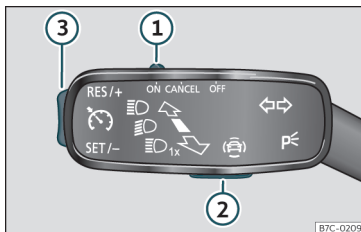

Fig. 208 On the turn signal lever: buttons to operate the speed limiter.
To change between the driving assistance systems, press button >>> Fig. 208 (2), then select with the right thumbwheel on the multifunction steering wheel in the instrument panel menu and press the thumbwheel to confirm your selection.
- Move control »» **Fig. 208 ①** to position **ON** and press button **②**.
- While driving, press button »» **Fig. 208 ③** in the area **SET/-**.
You can set the speed using button »» **Fig. 208 ③**:
- Move control »» **Fig. 208 ①** to position **OFF**.
If you want to temporarily deactivate the speed limiter, e.g. for overtaking, move the control »» **Fig. 208 ①** to position **CANCEL** or press button **②**.
After overtaking, the speed limiter can be activated with the previously programmed speed by pressing button »» **Fig. 208 ③** in the area **RES/+**.